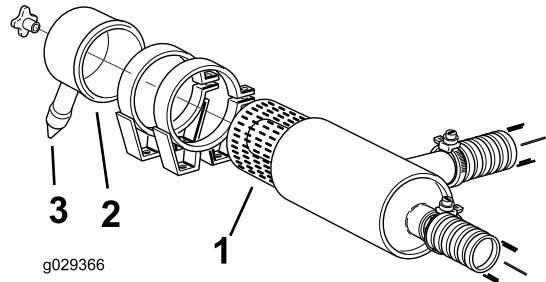

Figure 35
2. Release the latches securing the air cleaner cover to the air cleaner body (Figure 35).